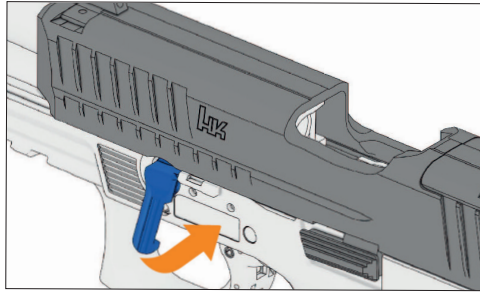

Figure 32 – Turn disassembly lever counterclockwise
7. Turn disassembly lever counterclockwise as far as it will go (Fig. 32).